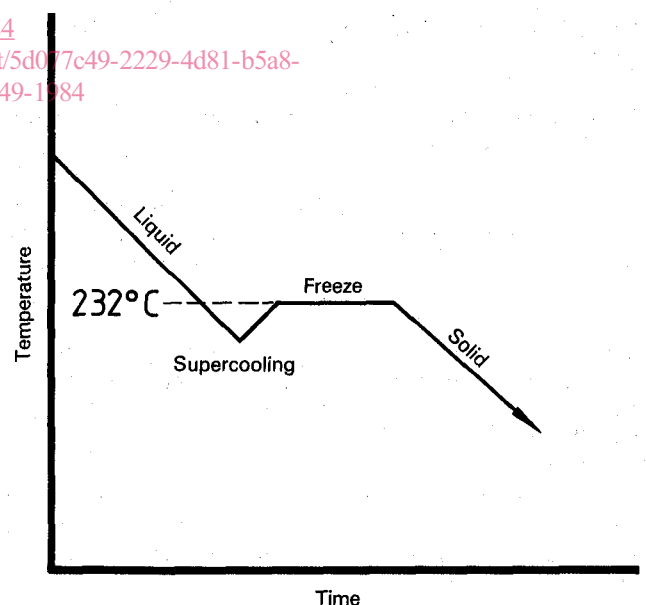

Figure 1 — Freezing characteristics of tin
6.2.17 If the temperature deviation meter needle is now less than full right, depress the AUTOCAL button until the needle is again full right scale deflection and then release. The deviation meter needle will slowly move from right to left, stop, and then abruptly reverse to the right and pause for about 3 to 5 s. During the time the needle is stationary, adjust the digital readout to centre the needle. The pause period constitutes the freezing point, the change of state from liquid to solid tin. The drop in temperature below freezing point and abrupt reversal is due to the super-cooling characteristic of tin (see figure 1). If the deviation meter needle does not remain completely stationary for a minimum of 3 s, the tin is contaminated and needs replacement. See annex D for replacement instructions.